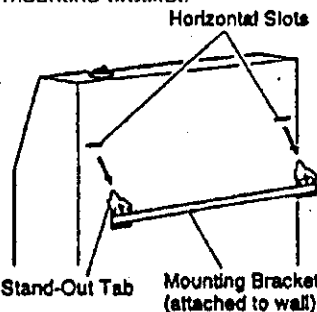

Figure 11- mounting heater onto mounting bracket
1. Locate two horizontal slots on back panel of heater (see Figure 11).